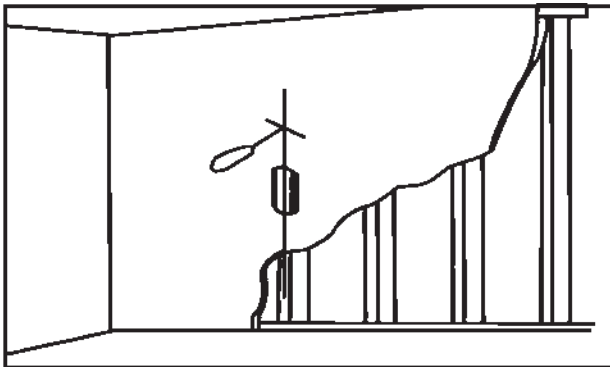

Fig. 3b
Wood stud walls (Fig 3b)
1. Use a pencil, awl, or a nail to mark the location of the wall stud centers (Fig 3b) after locating the stud with an electronic stud locator. The distance between marks should not be less than 16 inches (Studs must not be less than 16 inches (40.6 cm)).